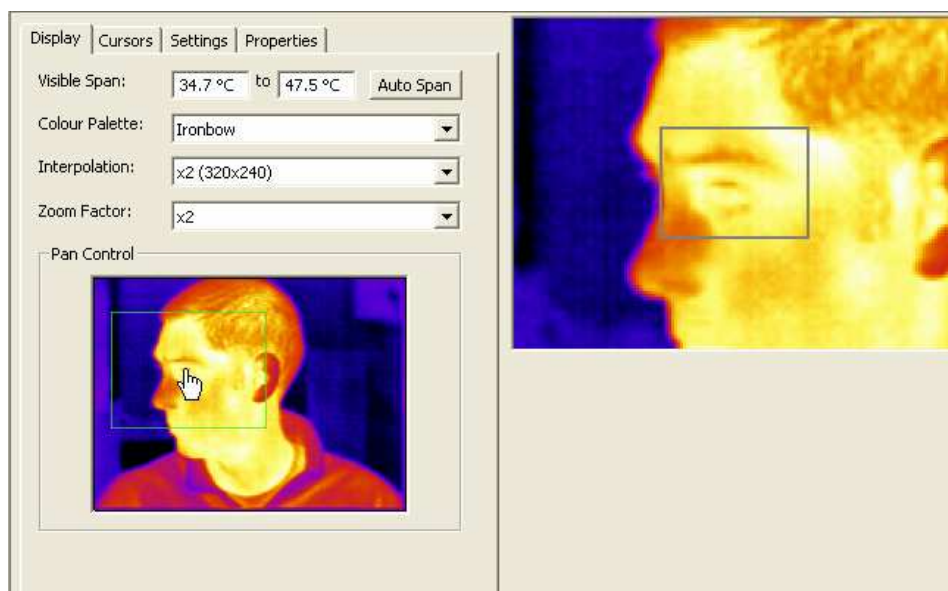
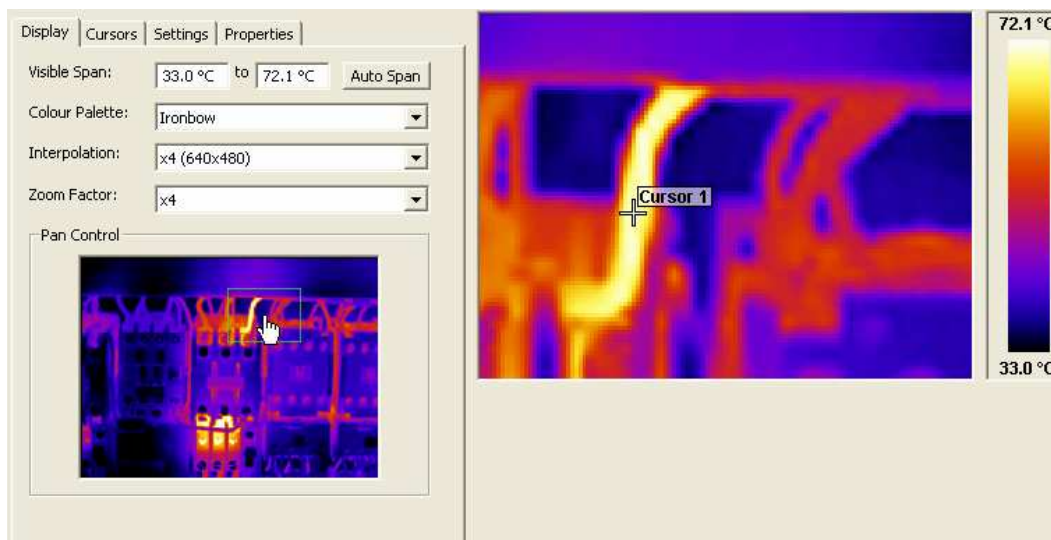

Figure 36: Area Select
Figure 40: Display Tab
- 6)  Area Select – This toggles a rectangular area over the centre of the image. The maximum, minimum and average temperatures for this area are then displayed in the measurement cursors list, allowing measurement by area analysis. The area's position can be moved in conjunction with the zoom & pan control (see Figure 36). For more information on the zoom & pan control see Figure 40.